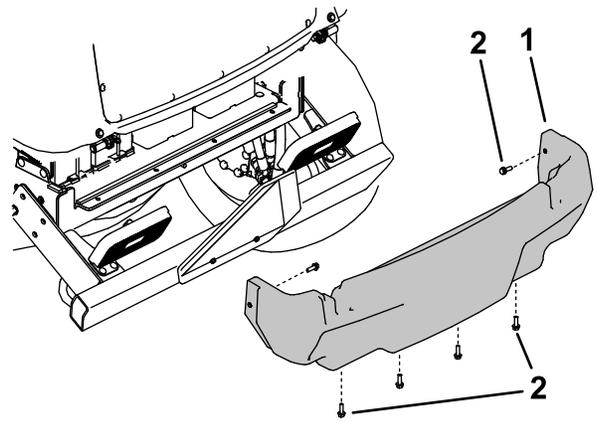

**Figure 113**
4. Loosen the knobs and remove both side shrouds (Figure 113).
5. Install the side shrouds (Figure 113).